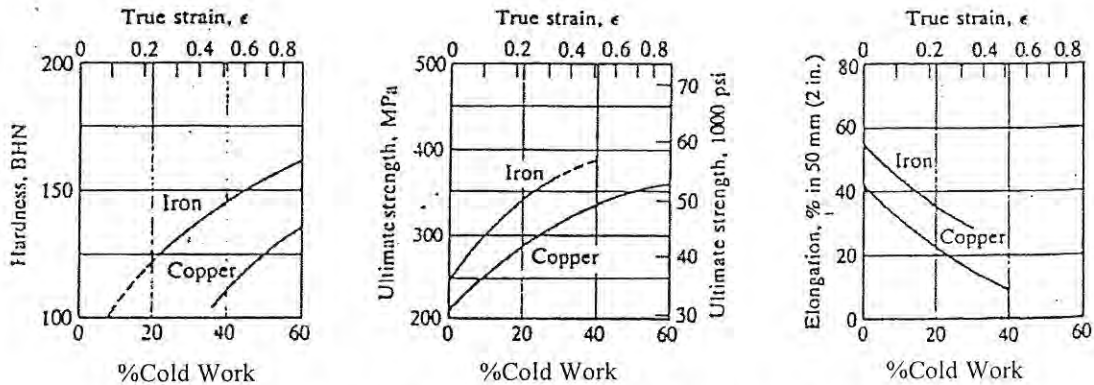

Fig 1. Cold Work vs Mechanical Properties (Iron and Copper)
1. (a) A copper wire must have a diameter 0.7 mm and an ultimate strength of >325 MPa (46,000 psi) together with a minimum ductility of 10% elongation in a tensile test. It is to be processed (drawing and annealing) from 10 mm diameter rod. Using the data in Fig 1, determine the diameter of the die to be used for the penultimate cold draw.